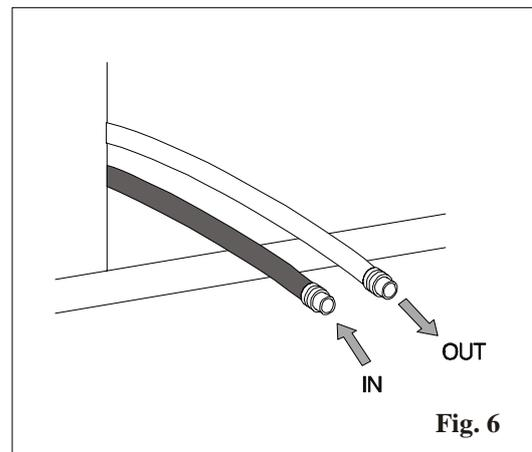

Fig. 6
**WARNING! Please ensure that the taps are open that the water flows regularly (Fig. 6) before turning on the cabinet.**